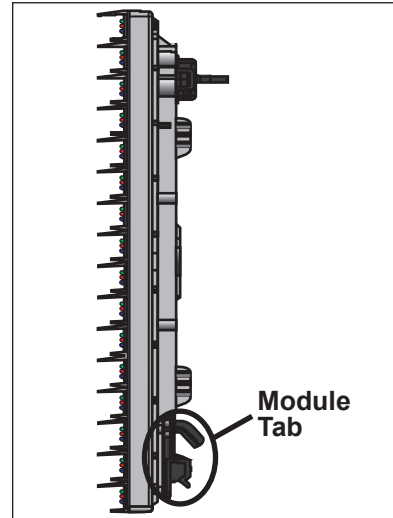

Figure 17: Tab on Back of Module
8. Place modules back into their proper locations by inserting the tabs at the bottom of the modules in the corresponding slots on the display face sheet. Refer to **Figure 17**. Tip the top of the module back into place and latch it by turning the hex head wrench a quarter-turn counter-clockwise.
8. Insert the tabs at the bottom of the module in the corresponding slots on the display face sheet. Refer to **Figure 17**. Tip the top of the module back into place and latch it by turning the hex head wrench a quarter-turn counter-clockwise. Make sure not to pinch any cables.